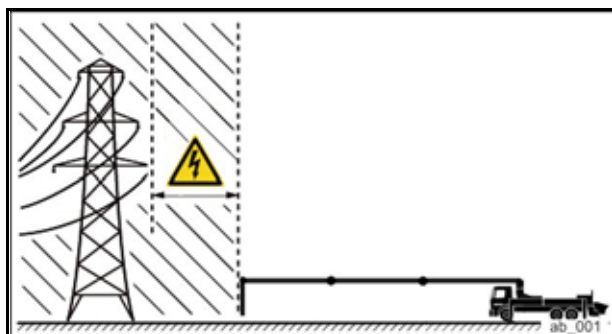

Fig. 55 Safety distance for high-voltage line
- Maintain the prescribed safety distance between high-voltage lines and all placing boom positions (Table 2 Safety distances for high-voltage lines), (Fig. 55 Safety distance for high-voltage line).